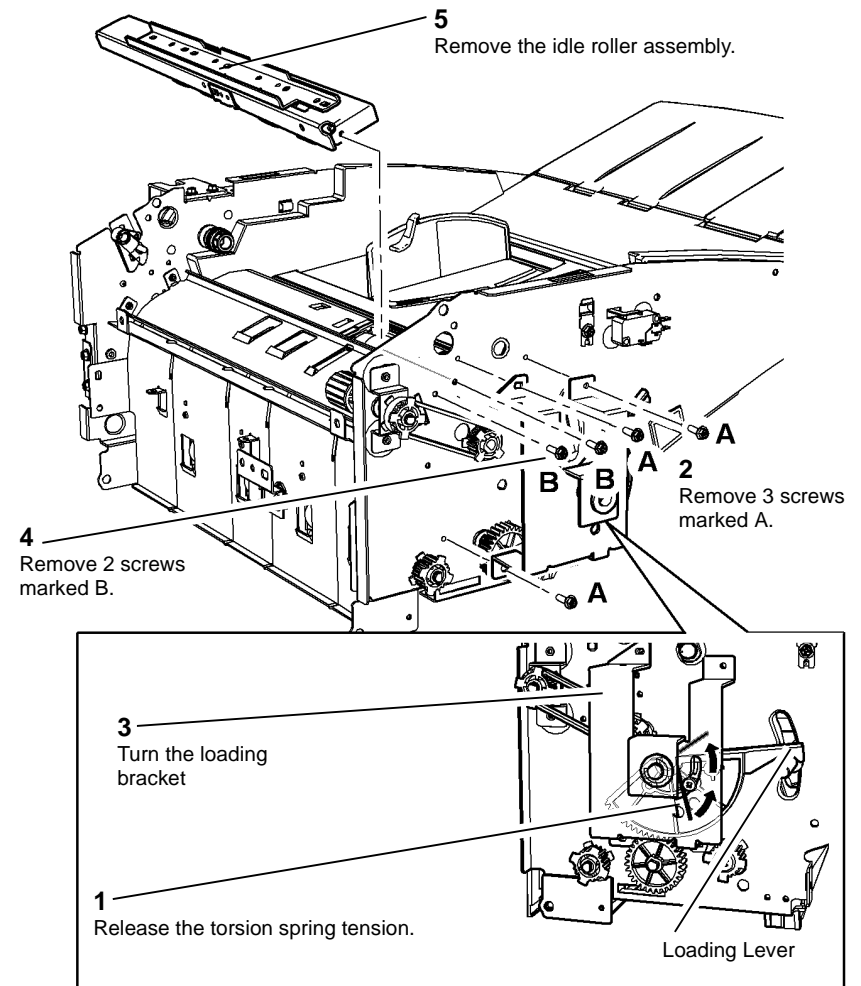

Figure 2 Idle roller assembly
7. Remove the idle roller assembly from the frame, **Figure 2**.